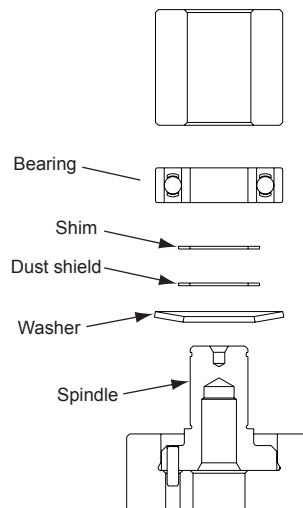

Figure 3
2. Place the Washer on the Spindle shaft with the curve of washer facing out so that the outside diameter of the washer will contact the outer diameter of the Bearing. Place the Dust Shield onto the Spindle shaft. Lay the Shim on the shoulder of the Spindle. Note: Be sure that the Dust Shield is past the shoulder where Spacer rests. Place the Bearing (one seal) on the Spindle with the seal side toward the Washer. NOTE: Make sure that both the inner and outer races of the Bearings are supported by the Bearing Press Tool when pressing them into place. Press the Bearing onto the shoulder of Spindle using the T-2B Spindle Bearing Pressing Tool Top (Included in 673-A0491 Kit - See “Service Tools and Accessories”) as shown in Figure 3.
4. Snap the Retaining Ring (not shown in Figure 3 or 4) onto the Spindle Assembly making sure it is completely snapped into the groove.